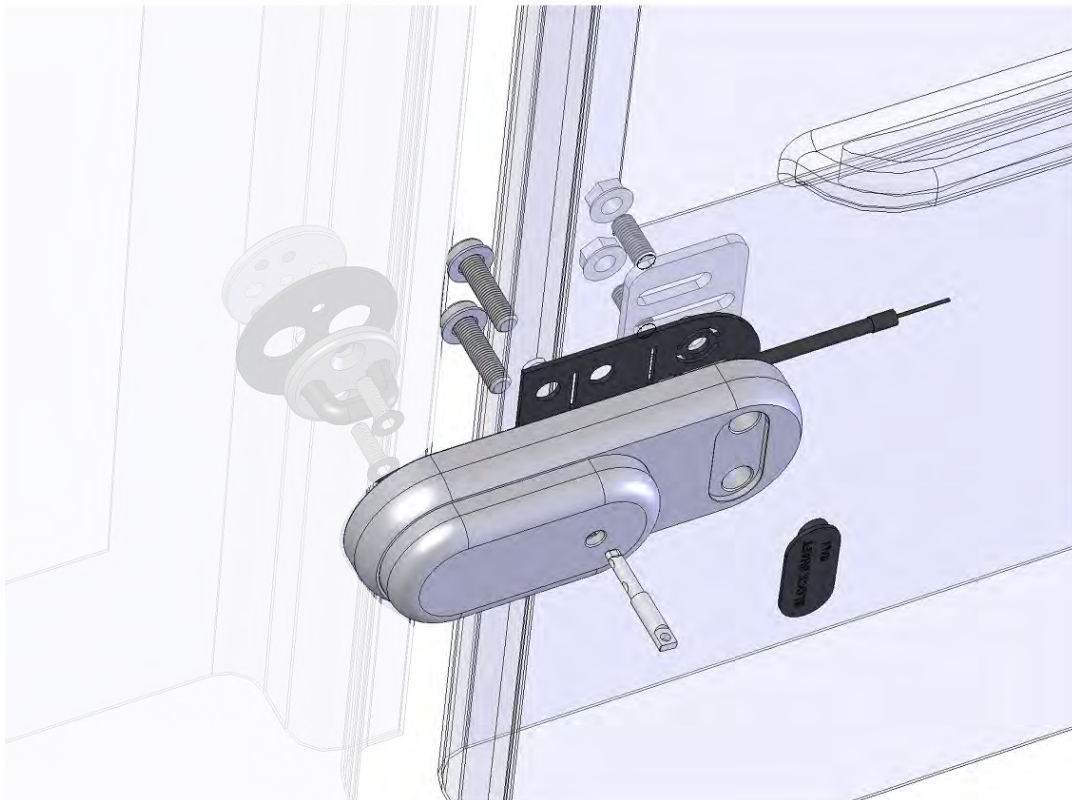

Fig. 17
Attach the housing using the 2-pin M8 cylinder head on the edge of the door and the two (2) M8 threaded studs on the housing, plus the two (2) M8 nuts to be used directly from inside threaded into the back plate slotted holes for the passage of the two studs (fig. 17).